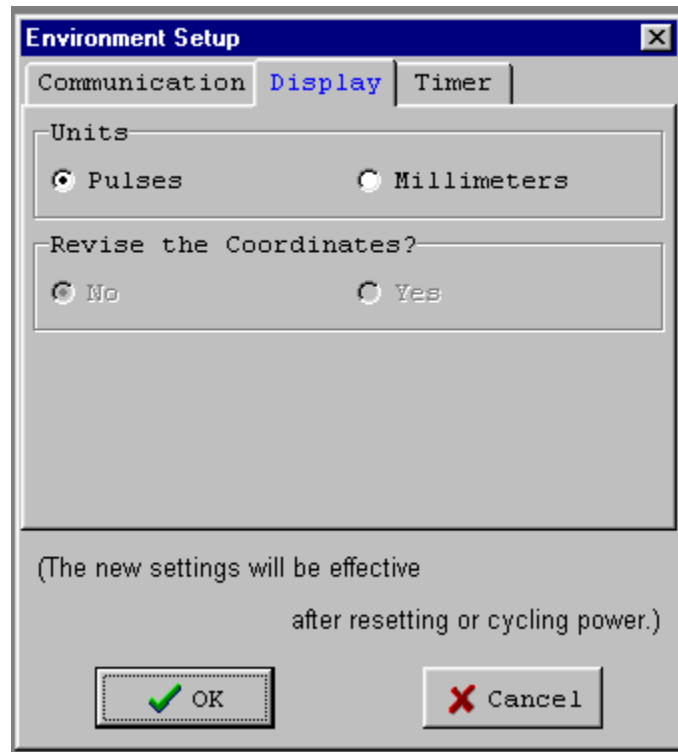

Figure 9.7.2 Environment Setting – Display
- c. Click the **Display** tab to display the window shown in Figure 9.7.2.